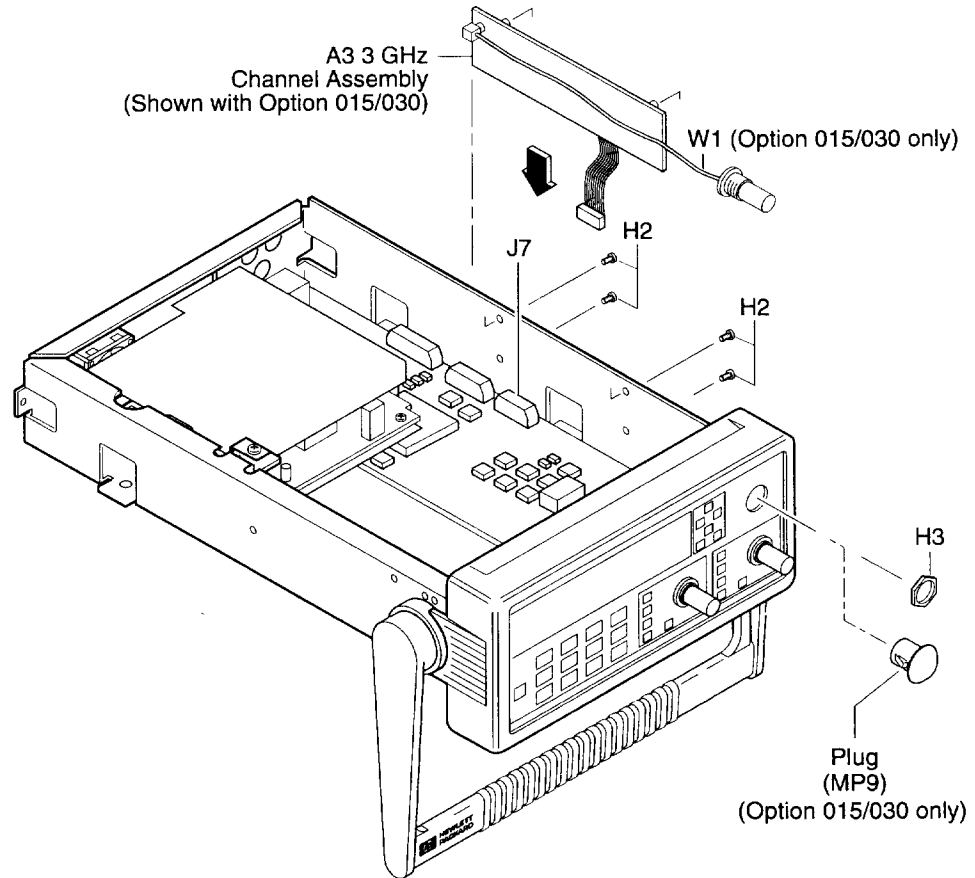

Figure 4-1. Optional Channel 3 (or 2) Input Assembly Retrofitting
- 1 Mount A3 optional Channel Assembly (53132-60003 for 1.5 or 3.0 GHz, or 53132-60211 for 5.0 GHz) to the right side (viewing from the front of the Counter) of the chassis using the TORX 10 screws (H2, four for Option 015/030, three for Option 050) as shown in Figure 4-1. For Option 050, ensure knurled connector goes through the front bezel.
- 2 Plug A3's flat-ribbon cable into connector J7 on A1 Motherboard Assembly as shown in Figure 4-1.